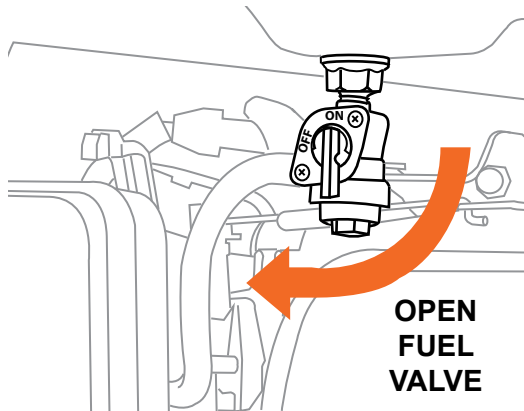

Figure 6
2. Turn the engine's fuel valve to the OPEN position (see Figure 6).